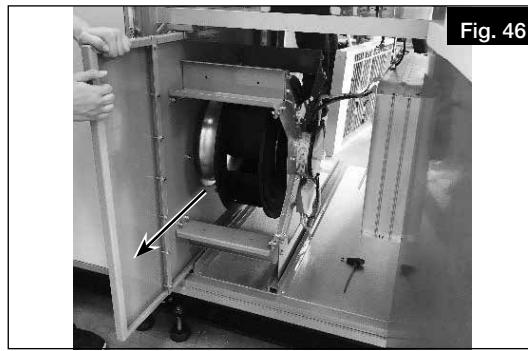

Fig. 46
4. Remove the fan slowly and carefully (see Fig. 46).